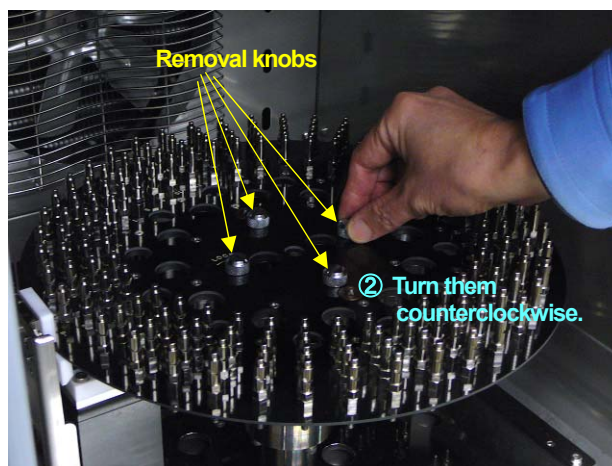

Fig.3-1 Removal of turn table
- ① Confirm the temperature in the chamber is always the vicinity of the room temperature.
- ② If the power amplifier is used, **be sure to turn off** the output of it.
- ③ Rotate counter clockwise and loosen four removal knobs (see Fig.3-1).